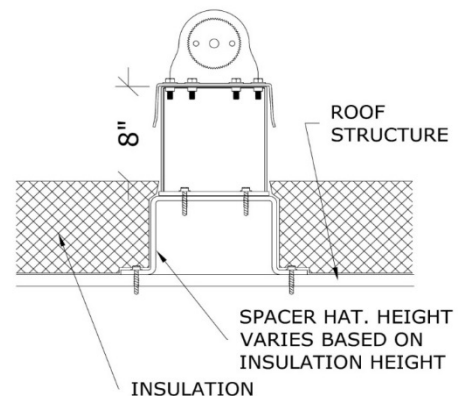

Figure 6
- Steel Spacer Hat: Similar to using a wood block as outlined above, a steel spacer may be used. An effective method is to use a steel plate bent into the shape of a hat section as shown in Figure 6. The spacer hat must be appropriately sized and attached to the structure.